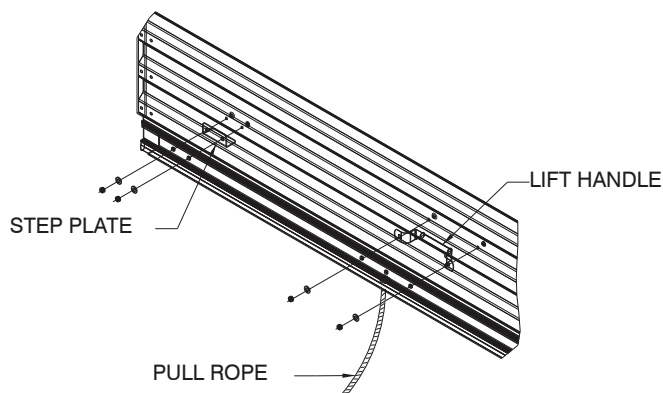

Figure 13
1. Install lift handle to the outside center of bottom bar using 1/4" bolts already installed in the bottom bar and in the hardware box. See Figure 13.
2. Install step plate to the outside of bottom bar on the side curtain (lock is installed), using 1/4" bolts already installed in the bottom bar and in the hardware box. See Figure 13.
3. Use remaining 1/4" bolts to fill unused holes on the opposite side of the bottom bar. See Figure 13.
1. Attach pull rope to inside of bottom bar. See Figure 13.